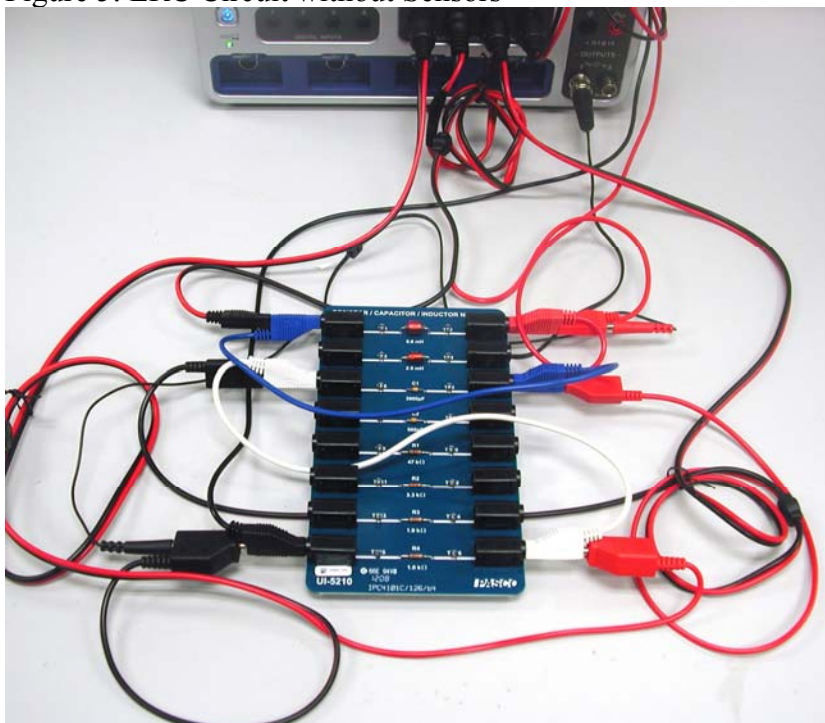

Figure 6: Circuit with Sensors
2. Now connect the other three voltage sensors as shown in Figure 6. Input A is connected across the resistor. Input B is connected across the inductor. Input C is connected across the capacitor. Note that the black side of each voltage sensor is attached on the left side of the circuit board.